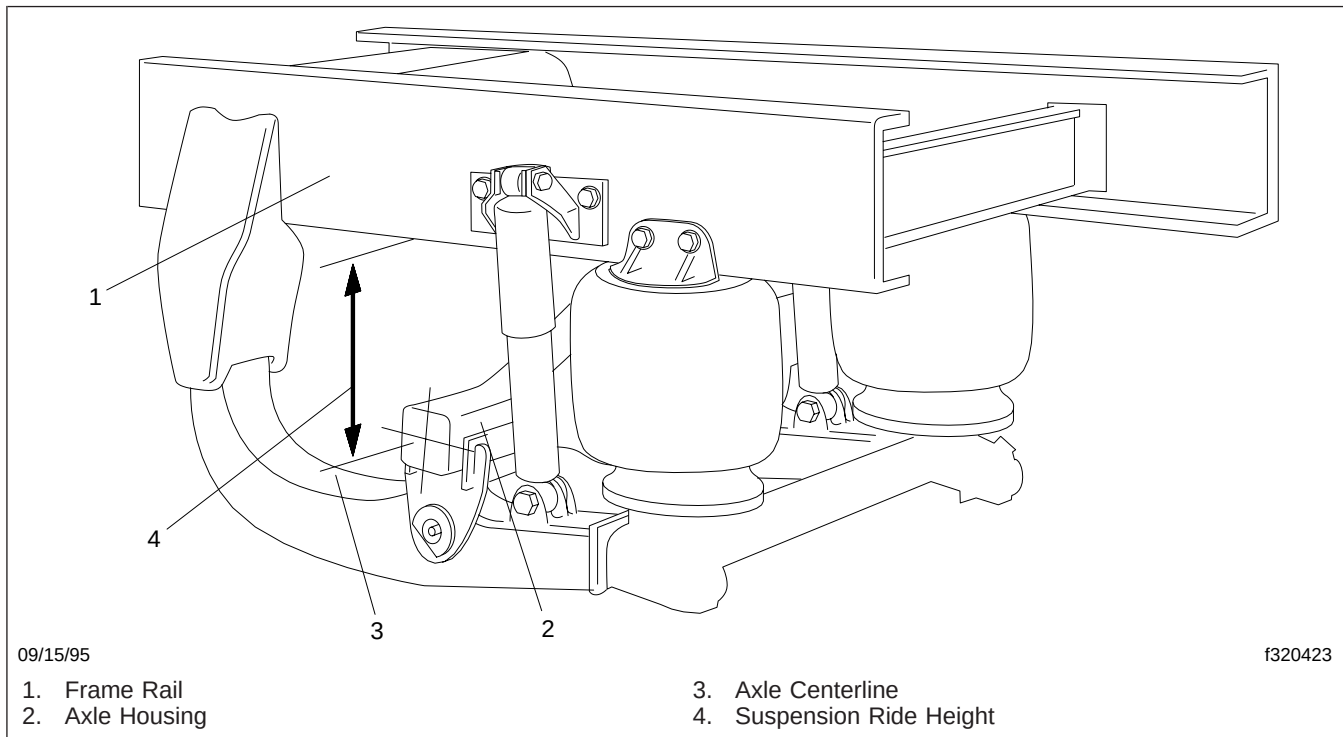

Fig. 13, Neway Ride Height Inspection
5. Check the riding height of the air suspension by measuring the distance from the centerline of the rear axle (see Fig. 13) to the bottom of the frame rail. If the riding height is incorrect, adjust the air suspension.